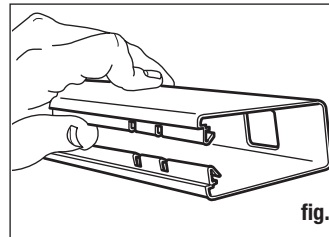

fig. 1
- Take one of the rails and gently open the throat with your hand or a wooden wedge (fig. 1). This will become the bottom rail of the assembly.